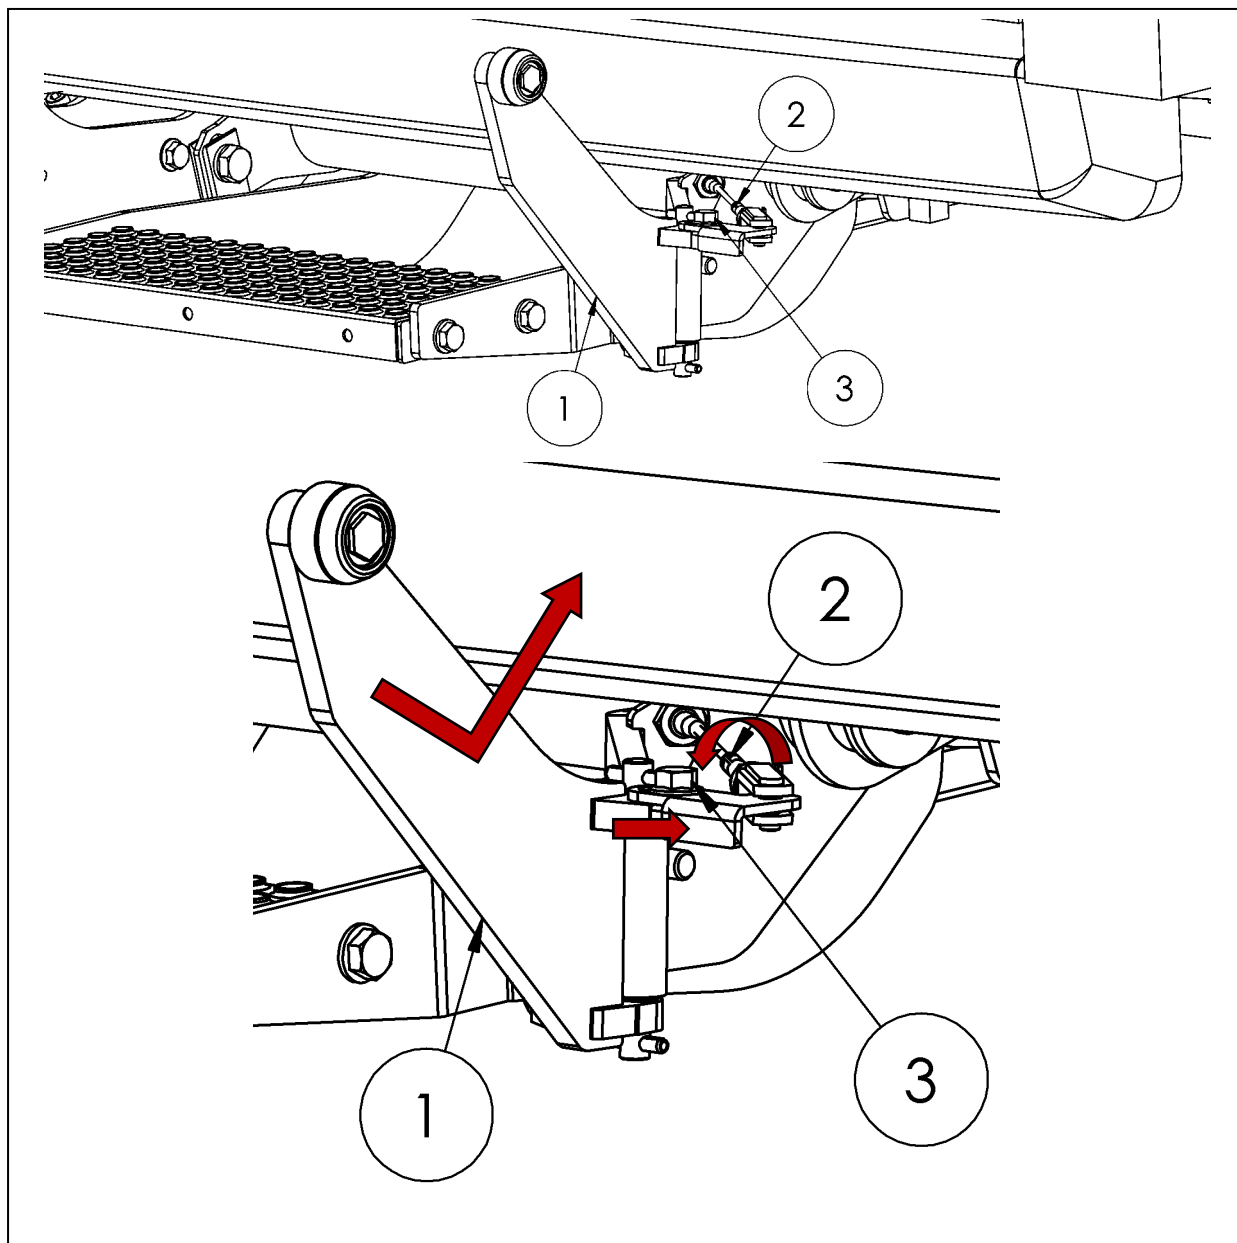

Fig. 82
Adjust the support arm (1) so that it can be pulled as close to the vehicle as desired when the platform is closed. The adjustment is made outside at the Bowden cable (2) and, if applicable, also at the screw on the lever (3). While making the adjustment, release the Bowden cable (2) and open the platform (see Fig. 82).